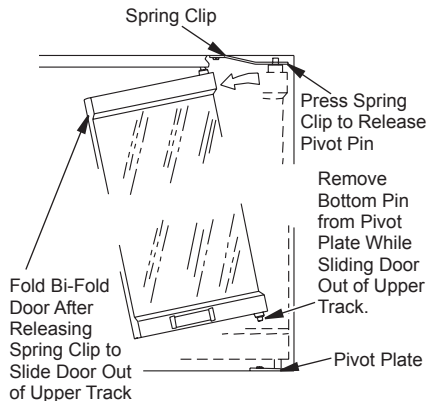

Figure 2: Removing Glass Doors
1. Remove glass doors (if equipped) by following the instructions shown in Figure 2.
3. Reinstall front refractory panel and glass door in reverse order shown in Figure 2, page 1.